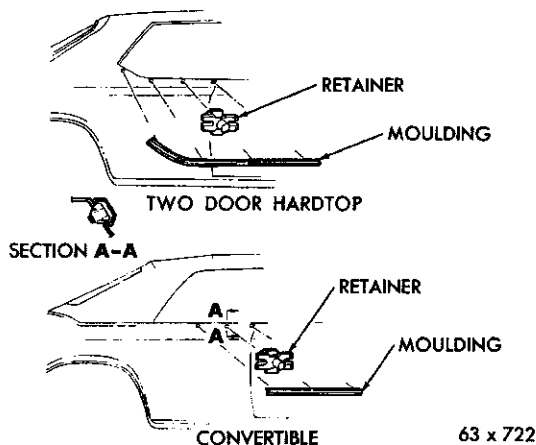

Fig. 35—Exterior Moulding Attachment
**37. EXTERIOR MOULDING ATTACHMENT (Figs. 35, 36, 37, and 38)**